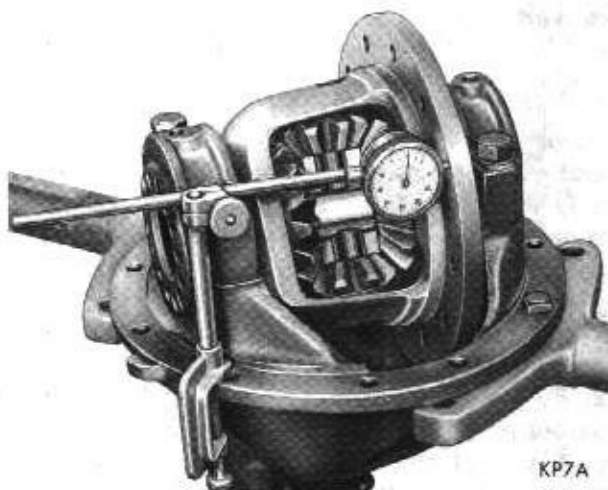

Fig. 19—Checking Drive Gear Mounting Flange Face Runout
(3) If drive gear runout exceeded .005 inch in step 2 (under "Carrier Disassembly"), recheck the case as follows: Install differential case and respective bearing cups in carrier.
(4) Install bearing caps, cap bolts and bearing adjusters. Tighten bearing cap bolts down tightly and screw in both adjusters with spanner wrench Tool C-406A.
(5) Tighten cap bolts and adjusters sufficiently to prevent any side play in bearings.
(6) Attach a dial indicator Tool C-3339 to carrier flange so pointer of indicator squarely contacts drive gear surface of differential case flange between outer edge flange and drive gear bolt holes (Fig. 19).
(7) Rotate differential case several complete revolutions while noting total indicator reading. This reading must not exceed .003 inch runout. If runout is in excess of .003 inch, differential case must be replaced. **In a case where the runout does not exceed .003 inch it is often possible to reduce the runout by positioning the drive gear 180° from point of maximum runout when reassembling drive gear on differential case.**
(8) With a flat nose drift and hammer, remove differential pinion shaft lock pin from back side of drive gear flange. (The hole is reamed only part way through, making it necessary to remove lock pin from one direction.)
(9) With a brass drift and hammer, remove differential pinion shaft and axle drive shaft thrust block.
(10) Rotate differential side gears until each differential pinion appears at large opening of case. Remove each pinion and thrust washer at that time.
(11) Remove both differential side gears and thrust washers.